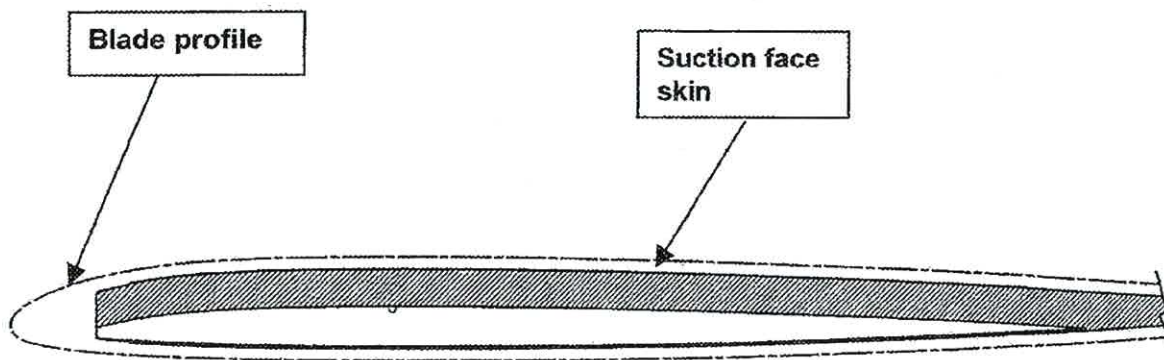

Figure 2
- . Faulty positioning of the wedge is indicated by a dissymmetrical position of the wedge relative to the skins on the blade pressure and suction faces. This dissymmetry can be determined by the fact that the (black) carbon skins do not exist on the pressure face side of the blade tip edge, yet they exist on the suction face side. (Refer to Figure 2).